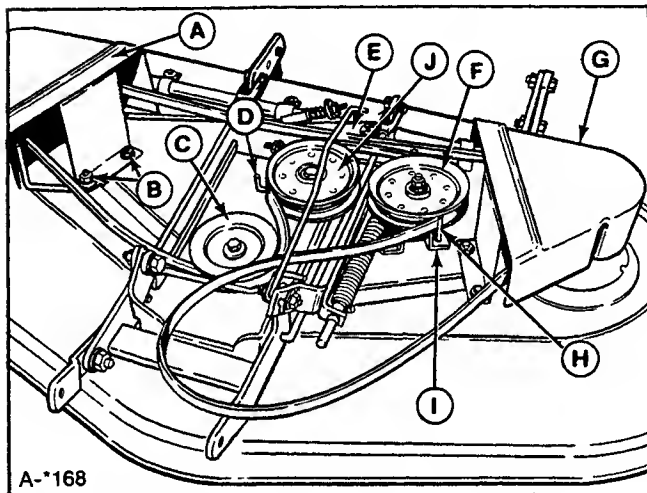

Figure 25. Mower Belt Replacement
2. Loosen the left belt stop (H, figure 25) enough to slip the belt off the pulley (F). Remove the right belt stop (D).